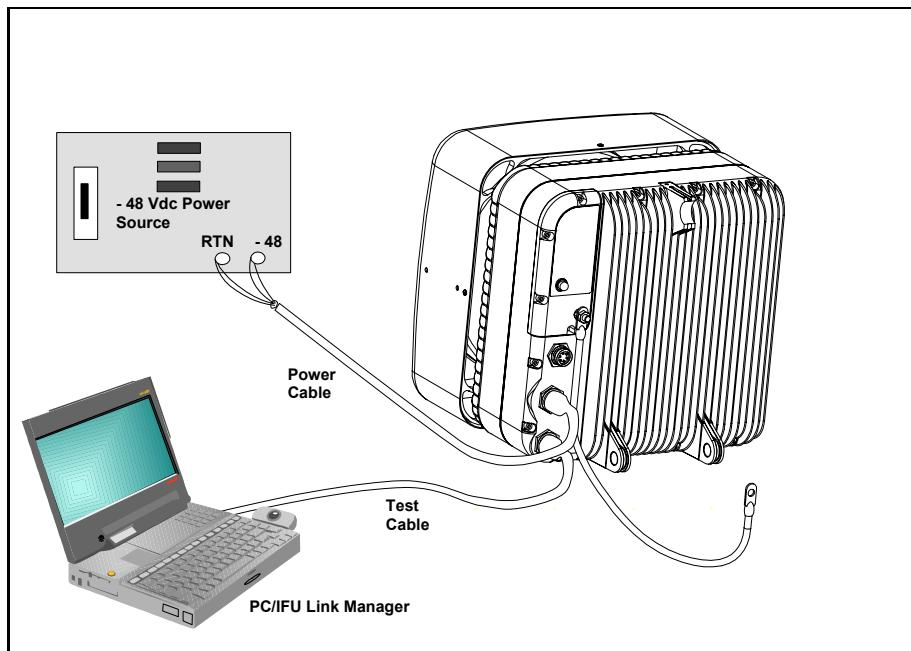

Figure 2-4. IFU Configuration Setup
- 12** Connect the – 48 Vdc power cable to the power connector on the IFU as illustrated in Figure 2-4.
- 14** Connect a laptop computer to the IFU as shown in Figure 2-4.